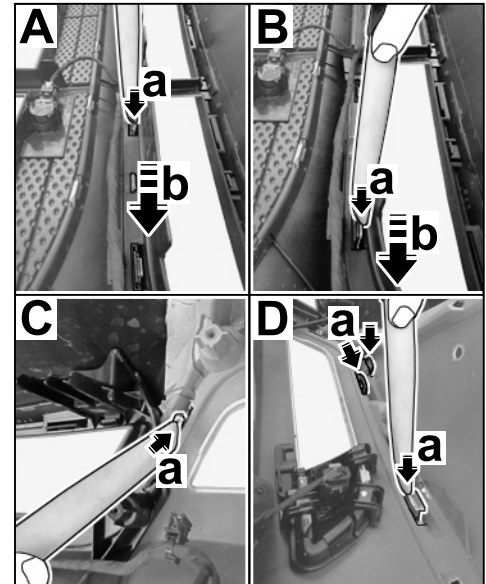

Figure 4
1.3.3 Release the tabs from the center of the front apron in the sequence A, B, C and D using a plastic spatula (⇒ *Figure 4 -arrow a-*). Carefully pull the skid plate downwards at the same time (⇒ *Figure 4 -b-*).